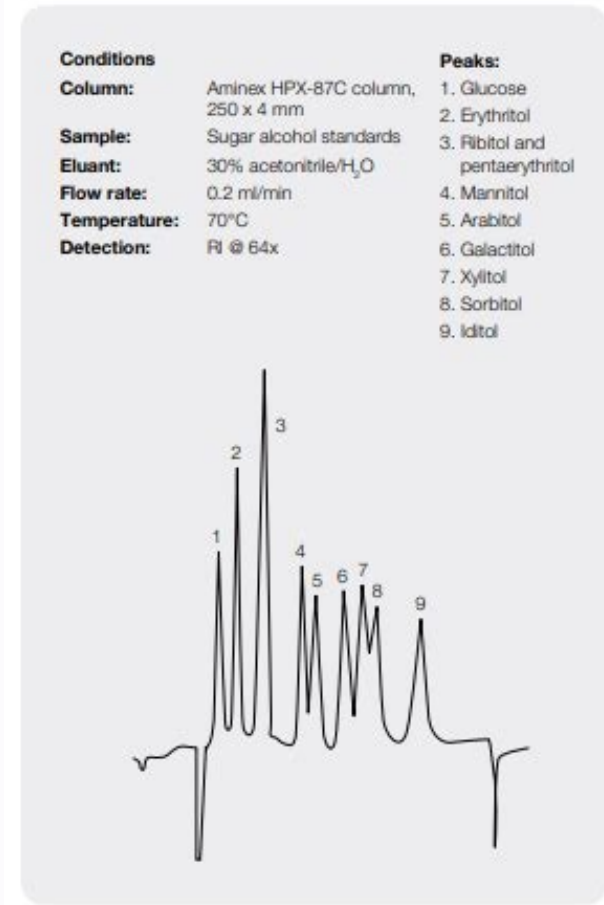

Fig. 1. Separation of sugar alcohols on the Aminex HPX-87C column containing added corn syrup.
You're Reading a Free Preview Pages 6 to 11 are not shown in this preview. You're Reading a Free Preview Pages 15 to 20 are not shown in this preview. Bio-Rad's columns are tailored for specific applications by optimizing severalparameters, including resin ionic form and column configuration. The followingtables compare the various resin-based analysis columns and provide operatingguidelines. Table 1 provides column specifications and typical operatingparameters. Table 2 provides data which can be useful for resin modification, aswell as cleaning, regeneration, and storage information. Page 2 Table 1. Specifications and Operating Guidelines for Aminex Columns(continued) Fast Carbohydrate Analysis Aminex HPX-42A Aminex HPX-87H Fast Acid Analysis Column, 100 x 7.8 mm Column, 300 x 7.8 mm Column, 300 x 7.8 mm Column, 100 x 7.8 mm 125-0105 125-0097 125-0140 125-0100 Lead Silver Hydrogen Hydrogen Sulfonated divinyl Sulfonated divinyl Sulfonated divinyl Sulfonated divinyl benzene-styrene benzene-styrene benzene-styrene benzene-styrene copolymer copolymer copolymer copolymer 9 µm 25 µm 9 µm 9 µm 1,500 psi 800 psi 1,500 psi 1,500 psi 85°C 85°C 65°C 65°C H 2 O H 2 O 0.005 M H 2 SO 4 0.005 M H 2 SO 4 5-9 6-8 1-3 1-3 125-0119 125-0118 125-0129 125-0129 Aminex Glyphosate Analysis Columns, Aminex Aminex Aminex 100 x 4.6 mm, HPX-87N column, HPX-87K column, HPX-87C column, 250 x 4.6 mm, 300 x 7.8 mm 300 x 7.8 mm 250 x 4 mm 300 x 4.6 mm 125-0143 125-0142 125-0094 125-0108, 125-0106125-0104, Sodium Potassium Calcium Potassium Sulfonated divinyl Sulfonated divinyl Sulfonated divinyl Sulfonated divinyl benzene-styrene benzene-styrene benzene-styrene benzene-styrene copolymer copolymer copolymer copolymer 9 µm 9 µm 9 µm 9 µm 1,500 psi 1,500 psi 1,500 psi 1,500 psi 1.0 ml/min 1.0 ml/min 1.0 ml/min 1.0 ml/min 85°C 85°C 85°C 50°C H 2 O H 2 O H 2 O 0.005 M KH 2 PO 4 + 4% MeOH 5-9 5-9 5-9 pH 2.0 125-0508 125-0507 125-0128 None required *Requires cartridge holder. 9 Lit42D.qxd 11/29/2005 2:23 PM Page 9 Page 3 Table 2. Cleaning, Regeneration, and Storage Guidelines Aminex Aminex Aminex HPX-87C Column, HPX-42C Column, HPX-87P Column, 300 x 7.8 mm 300 x 7.8 mm 300 x 7.8 mm Organic modifier Acetonitrile 30%; Acetonitrile 30%; Acetonitrile 30%; (maximum) EtOH, IPA, 5% EtOH, IPA, 5% EtOH, IPA, 5% Inorganic modifier Calcium sulfate or nitrate Calcium salts Lead nitrate Avoid MeOH, acids, bases, MeOH, acids, bases, MeOH, acids, bases, MeOH, acids, other salts, other salts other salts anions that form insoluble ppts with lead Cleaning 30% CH 3 CN in water 30% CH 3 CN in water 30% CH 3 CN in water Solvent Flow rate 0.2 ml/min 0.2 ml/min 0.2 ml/min Temperature 25°C 25°C 25°C Duration 4 hr 4 hr 4 hr 4 hr Regeneration 0.1 M Ca(NO 3) 2 0.1 M Ca(NO 3) 2 30% acetonitrile; Solvent 0.1 M Pb(NO 3) 2 , pH 4.0* Flow rate 0.2 ml/min 0.2 ml/min 0.2 ml/min Temperature 85°C 85°C 60°C Duration 4-16 hr 4-16 hr 16 hr Shipping/storage Water Water Water Solvent *Adjust Pb(NO 3) 2 to pH 4.0 with 0.1 M HNO 3 10 Lit42D.qxd 11/29/2005 2:23 PM Page 10 Page 4 11 Table 2. Cleaning, Regeneration, and Storage Guidelines (continued) Fast Carbohydrate Aminex Aminex Fast Acid Analysis Column, HPX-42A Column, HPX-87H Column, Analysis Column, 100 x 7.8 mm 300 x 7.8 mm 300 x 7.8 mm 100 x 7.8 mm Acetonitrile 30%; Acetonitrile 30%; CH 3 CN 40%; CH 3 CN 40%; EtOH, EtOH, IPA, 5% EtOH, IPA, 5% EtOH, IPA, 5% EtOH, IPA, 5% EtOH, IPA, 5% Lead nitrate None Phosphoric acid, Phosphoric acid, nitric acid (<5%), HCl nitric acid (<5%), HCl MeOH, acids, bases, MeOH, acids, bases, MeOH, salts, bases, MeOH, salts, bases, MeOH, salts, bases, other salts all salts, metal ions, amines, metal ions, amines, other organic solvents, other organic solvents, H 2 O >pH 3 30% CH 3 CN in water 30% CH 3 CN in water (1) 5% CH 3 CN in 0.005 M H 2 SO 4 ; (2) 30% CH 3 CN in 0.005 M H 2 SO 4 4 CN in 0.005 M H 2 SO 4 0.2 ml/min 0.2 ml/min 25°C 25°C 65°C 4 hr 4 hr (1) 4 hr; (2) 12 hr; (1) 4 hr; (2) 12 hr; (3) run mobile phase (3) run mobile phase until steady baseline until steady baseline 30 % acetonitrile; Not recommended 0.025 M H 2 SO 4 0.025 M H 2 SO 4 0.1 M Pb(NO 3) 2 , pH 4.0* 0.2 ml/min — 0.2 ml/min 0.2 ml/min 60°C — 65°C 65°C 16 hr — 4-16 hr 4-16 hr Water Water 0.005 M H 2 SO 4 0.005 M H 2 SO 4 Lit42D.qxd 11/29/2005 2:23 PM Page 11 This manual is related to the following products: .300" .08" .210" .09" Valco Parker Fig. 1. Bio-Rad's resin-based columns are manufactured using Parker end-fittings. Reversenuts and ferrules are supplied with the columns and must be used to attach the column to the HPLCsystem if the system is not already equipped with Parker 1/16" reverse nuts or the equivalent.Page 2 5.3 Pressure Checks The HPLC pump pressure limit device should be adjusted so that a pressureincrease (10-20% above the standard operating pressure) will cause the pumps toturn off. This will protect the system from accidental over-pressure.